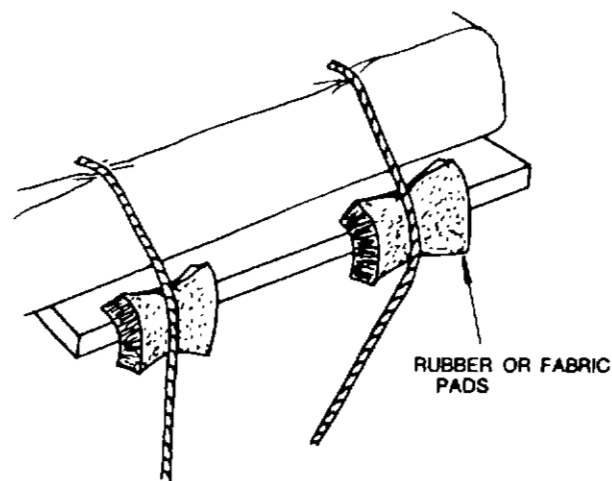

Figure 2.16
- Lashings should be protected from sharp edges on both the load and the vehicle. (Refer Figure 2.16)